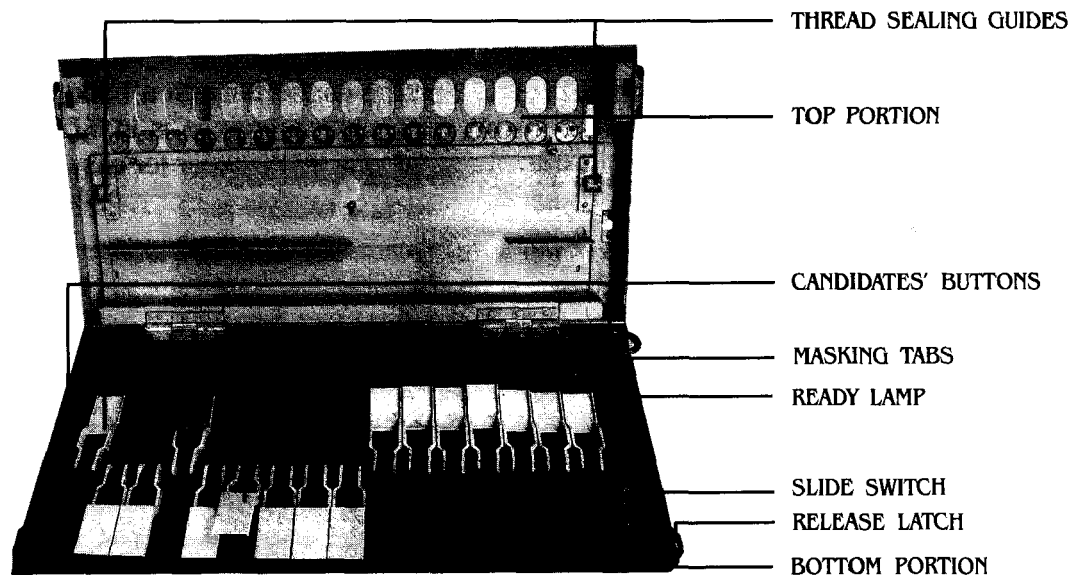
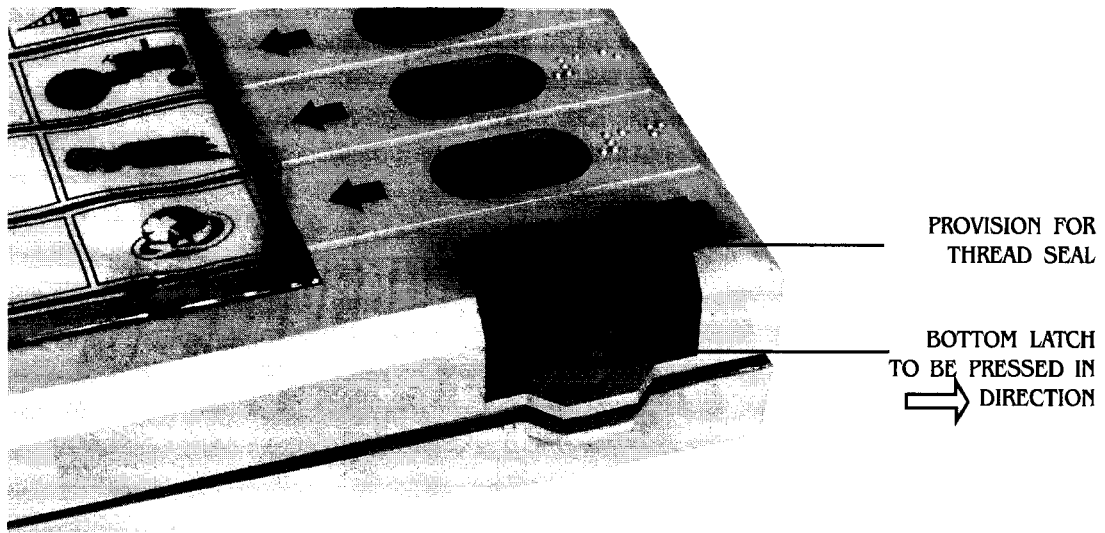

Fig.5 Inside view of Ballot Unit
Fig.14 View of Latches
16. The top cover of the Ballot Unit is opened by pressing simultaneously, towards the right, the latches at the top and bottom of the right edge of the unit. The inside of the unit is as in Fig. 5. Sixteen candidates buttons are visible, each having an associated masking tab. The buttons which are required to be used should not be covered or masked. The buttons not required to be used should be covered or masked with their associated masking tabs.
2. After taking out the Ballot Unit from the carrying case, the top cover of the unit may be opened carefully by pressing simultaneously, towards the right, the latches at the top and bottom on the right edge of the unit (Fig. 14), and swinging the cover up (Fig. 5).